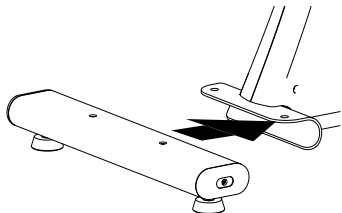

Figure 1
- Place the rear stabilizer under the bracket at the rear of the bike (Figure 1).